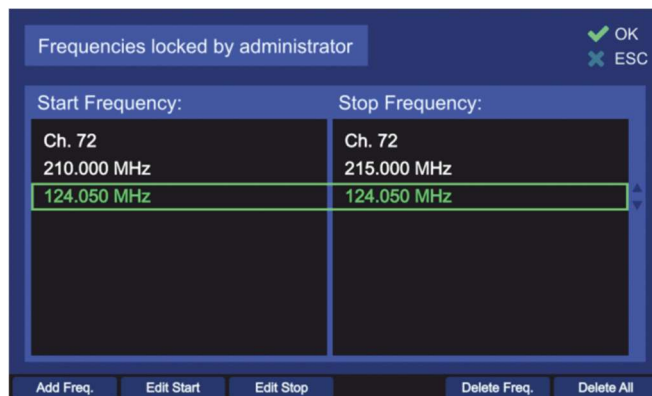

Figure 84. Locked frequencies. Administrator view
- 1) Press the “See locks” hotkey in the “Freq. Info” dialog. The window, which is shown in Figure 84 appears.